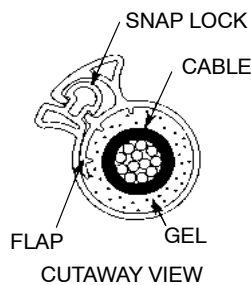

FIGURE 5
5. Center the connector in the sleeve, then wrap the sleeve around the cable and connector. Start at one end, compress the snap locks over the entire length of the sleeve. Ensure that flaps seat under snap locks as shown in Figure 5.